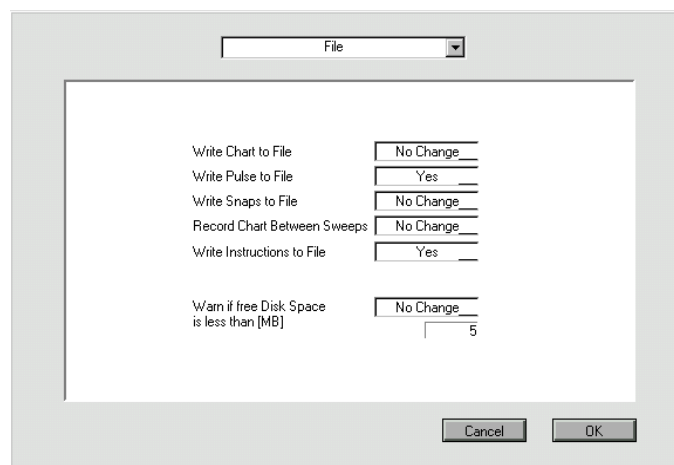

Figure 17: subeditor to edit the file INSTRUCTIONS
- ❑ Select the command group “File” in the popup menu of the subeditor and set: “Write Pulse to File” to “yes” (Figure 17) and OK all subeditors. After passing this command line, the recorded data during a pulse protocol will be written to file.